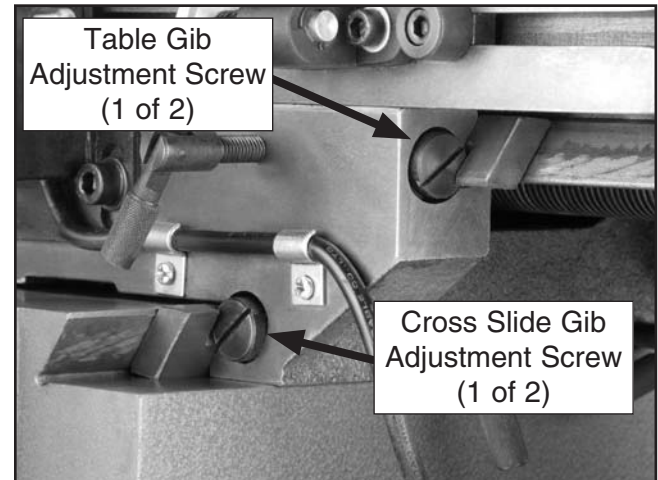

Figure 50. Gib adjustment screws.
2. Loosen one adjustment screw (see **Figure 50**) and tighten the other the same amount to move the gib until you feel a slight drag in that path of movement by moving the handwheel back-and-forth.